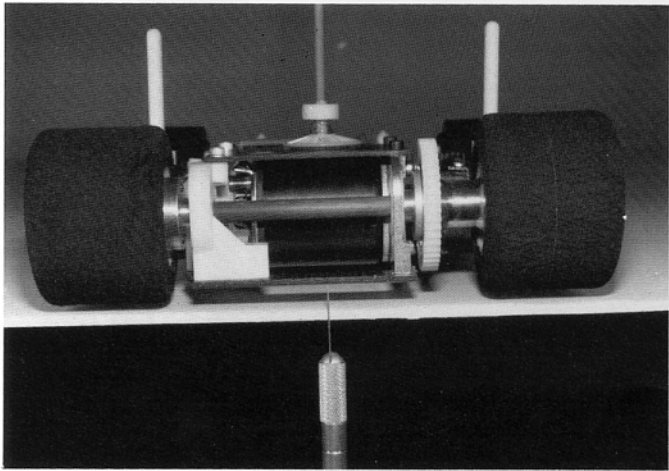

Fig. 81
□ **Fig. 81**—Time to set the car "tweak." After EVERYTHING is installed on the car—batteries, motor and all radio equipment—we can set the "tweak."
TO CHECK THE TWEAK, take a ruler and measure from the outside of the left hand rear tire to the outside of the right hand rear tire. Now take exactly half that amount and mark this EXACT centerline of the car on the lower bracket #8202 (shown in Fig. 81). Just scratch a mark on the bracket with an Exacto knife.
Now set the car on a very flat and level table. Take the Exacto knife blade and put the edge of the blade underneath the bracket EXACTLY where your mark is and very slowly lift up on the blade. BOTH rear tires should come up off the table at EXACTLY the same instant. (Fig. 81.) If one tire lifts off the table the slightest amount before the other tire, the car is tweaked.